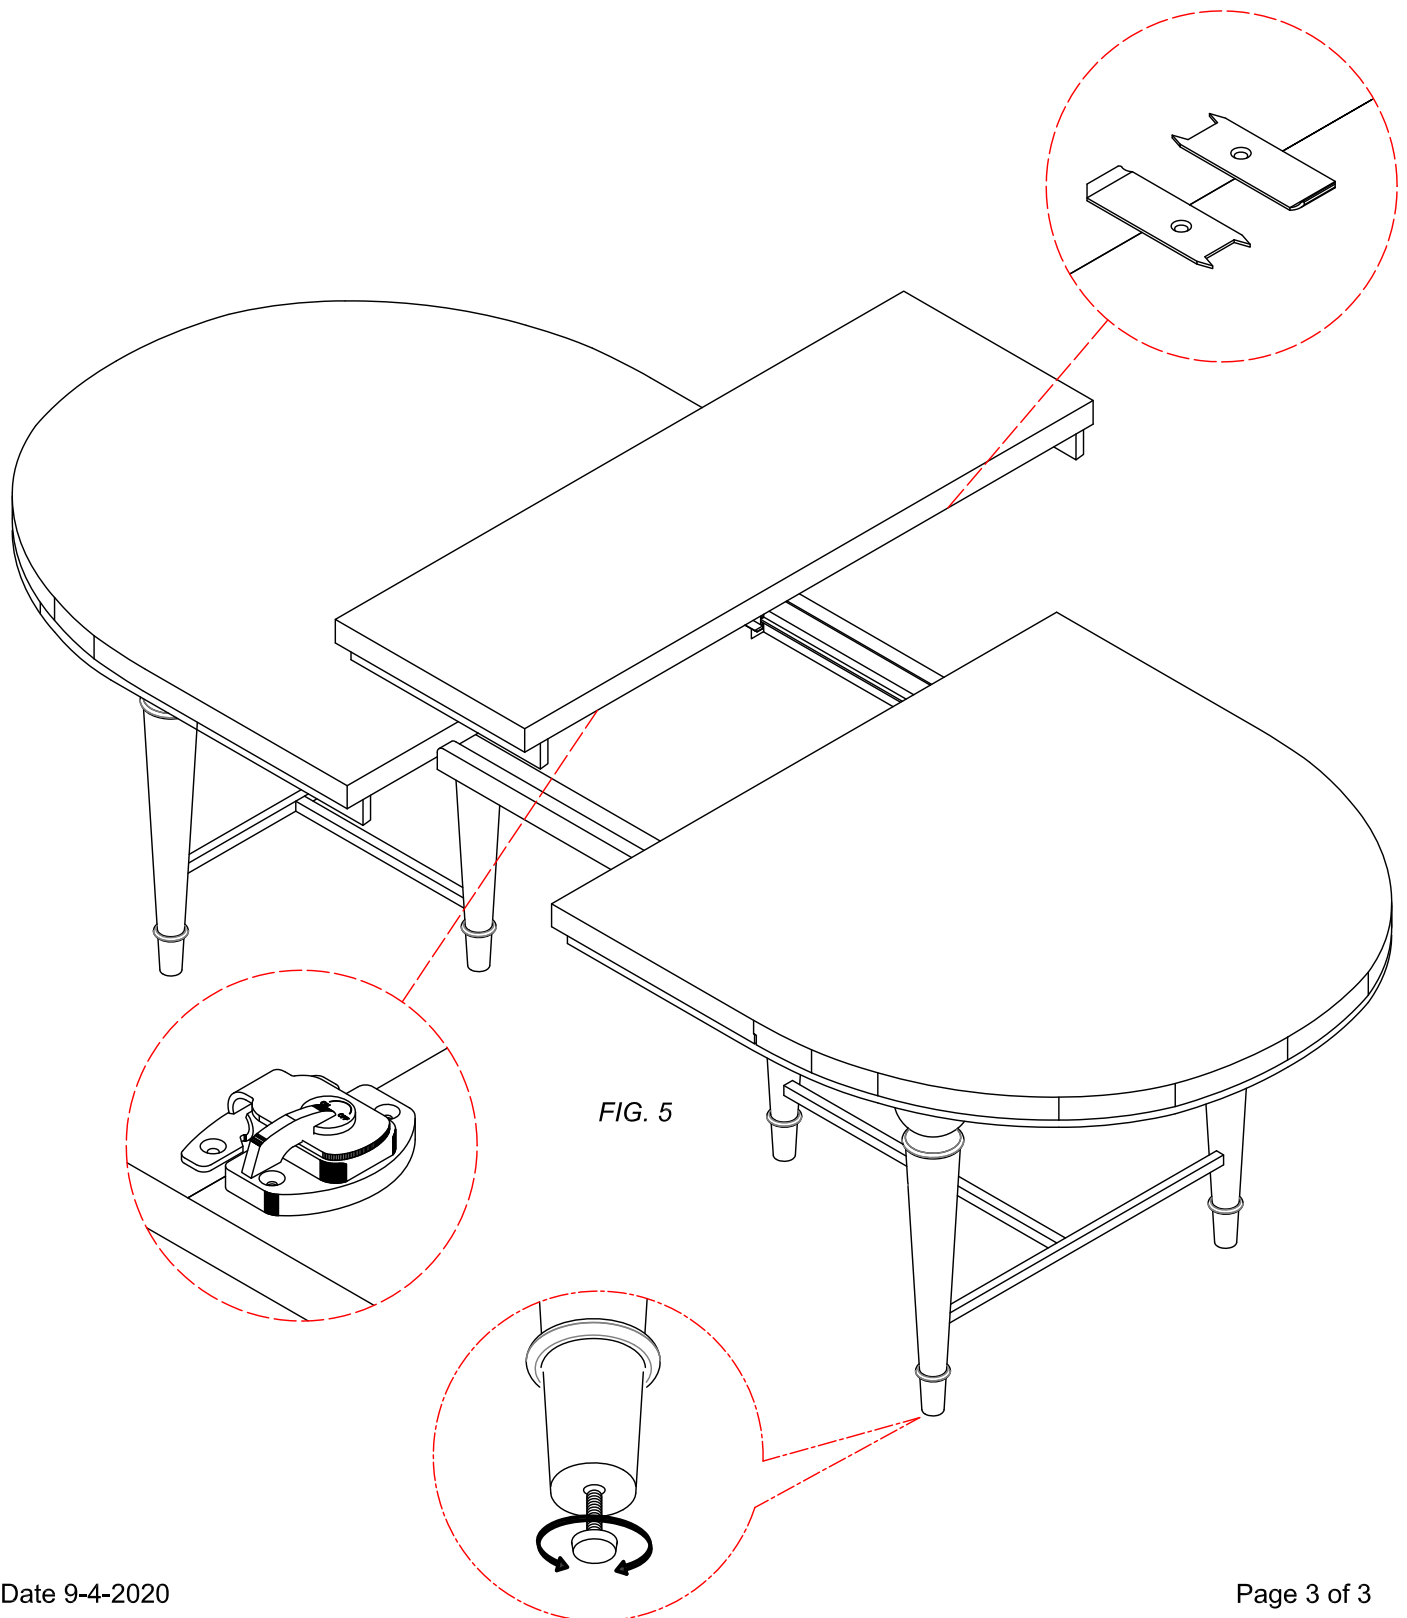

FIG. 5
8. If the floor uneven the levelers located at the underside of the Leg, to do this lift Up the side that need to be elevated to provide access to the levelers, turn the leveler until adequate contact with the floor (FIG.5).